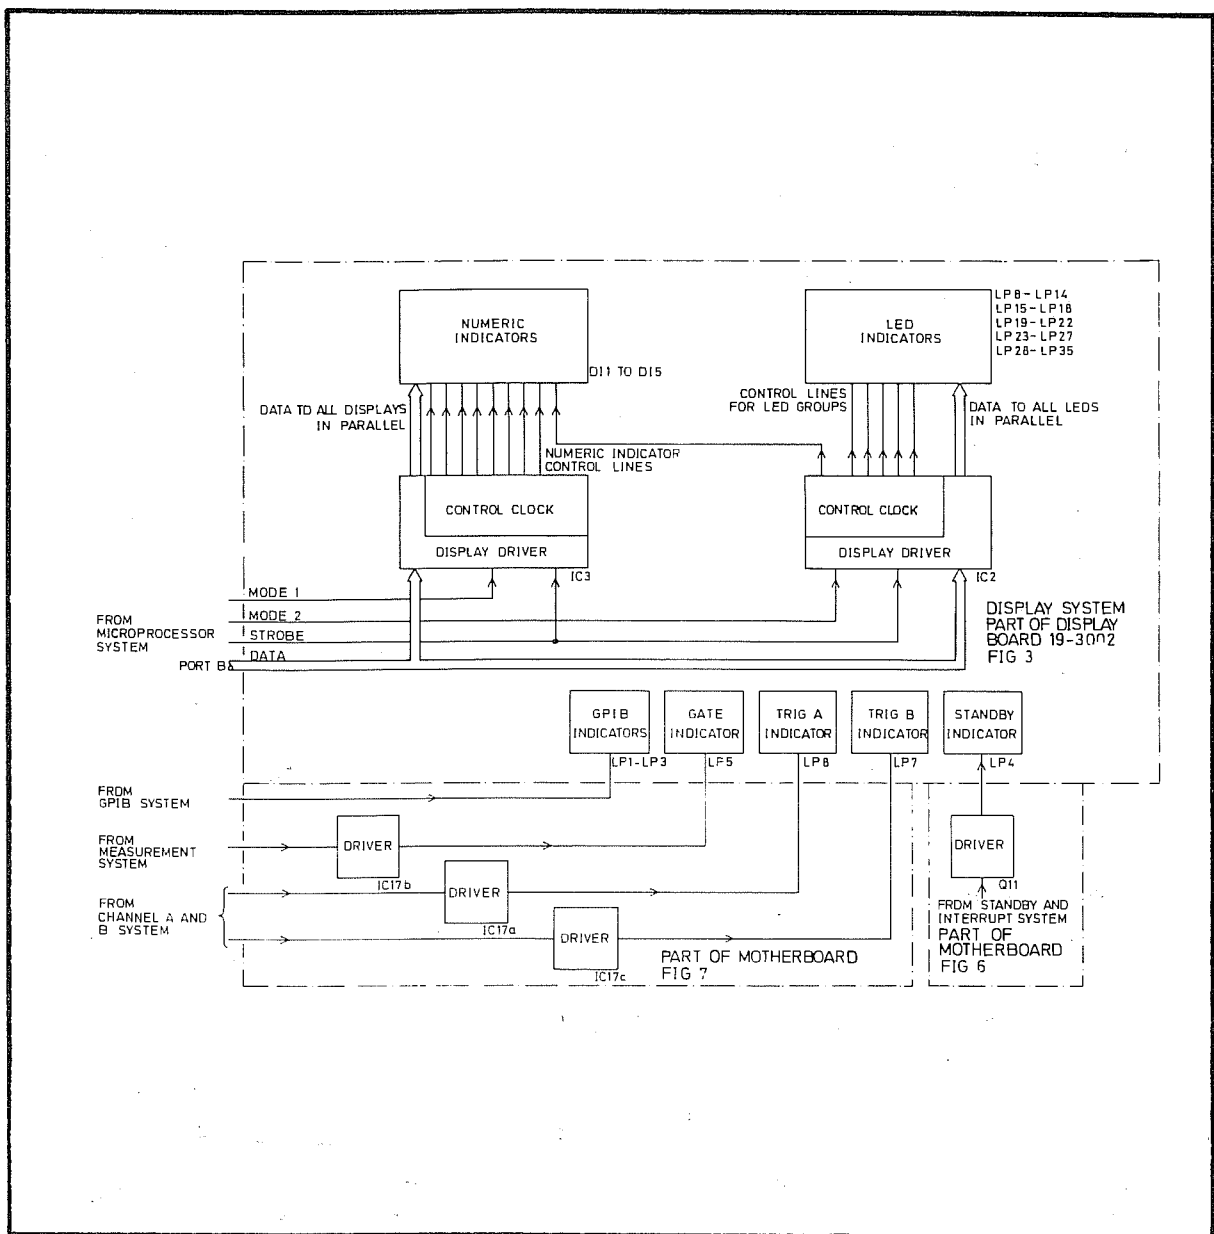

Fig 6.5 The Display System
- 39 A block diagram of the system is given in Fig 6.5. The GPIB indicators, the GATE indicator, the channel A and channel B TRIGGER indicators and the STANDBY indicator are held on or off by control signals from other systems. The remainder of the display is multiplexed under the control of the display drivers.